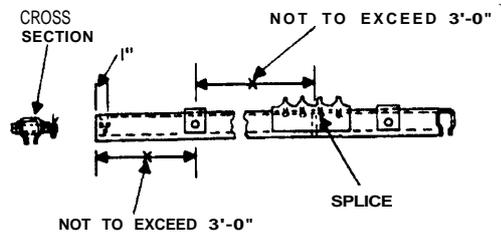

Figure 5. Method of Assembling H-88347 Ladder Track.
3.01 The method of assembling the H-88347 ladder track is shown in Figure 5. The track either may be preassembled on the floor prior to attaching it to the superstructure or it may be assembled by attaching sections to the superstructure, depending on the length of the run.